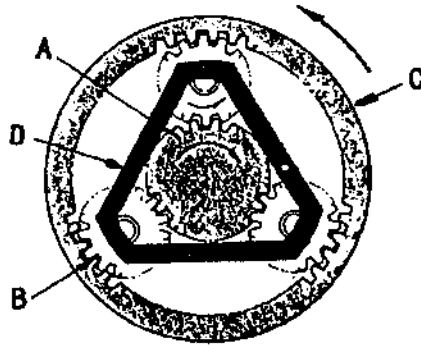

Fig. 2-12
When the carrier (D) is locked, the rotation of the sun gear (A) is transmitted to the planetary gear (B) and then transmitted from the planetary gear (B) to ring gear (C) and the ring gear (C) rotates. The ring gear (C) rotates in the opposite direction to that of the sun gear (A) in the shown structure. (See Fig. 2-12).